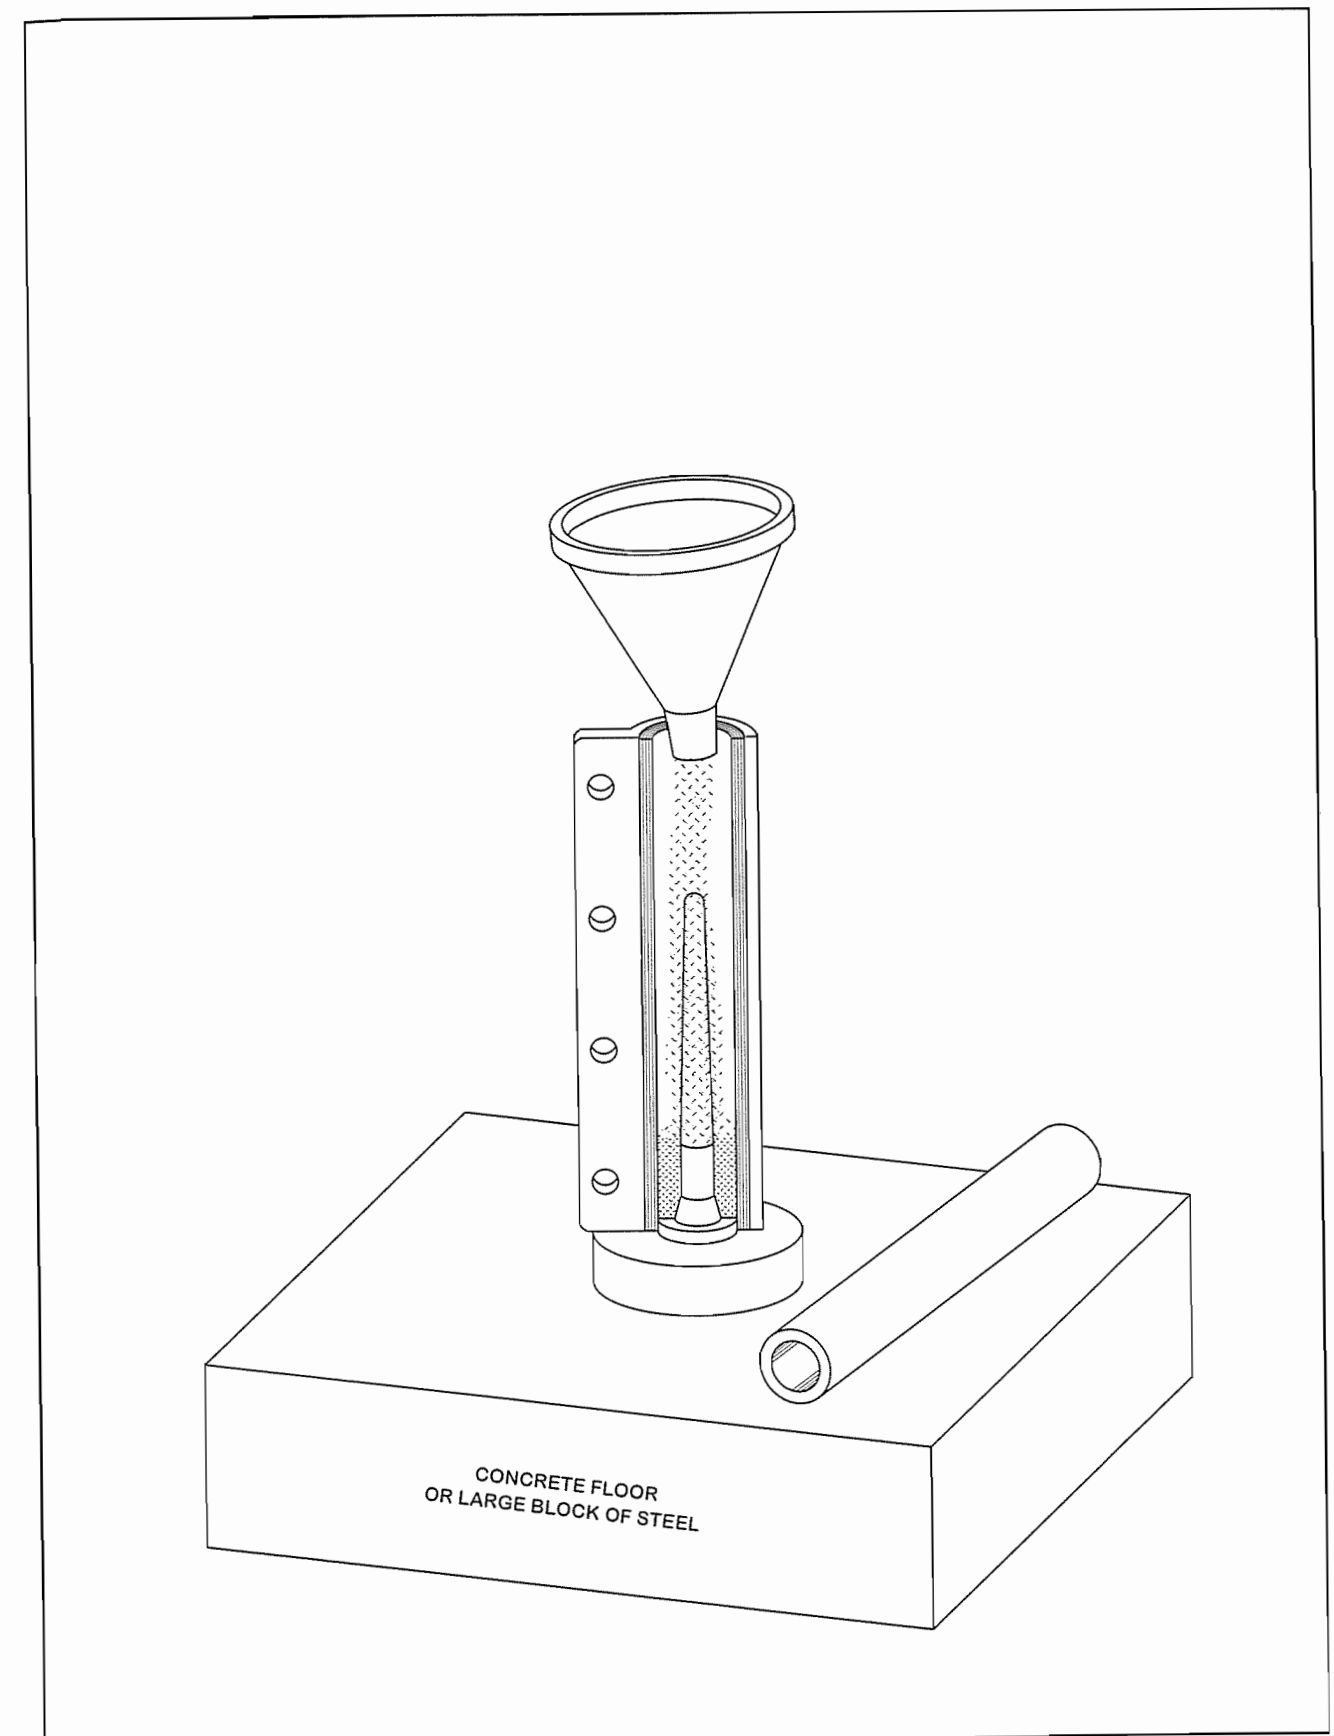
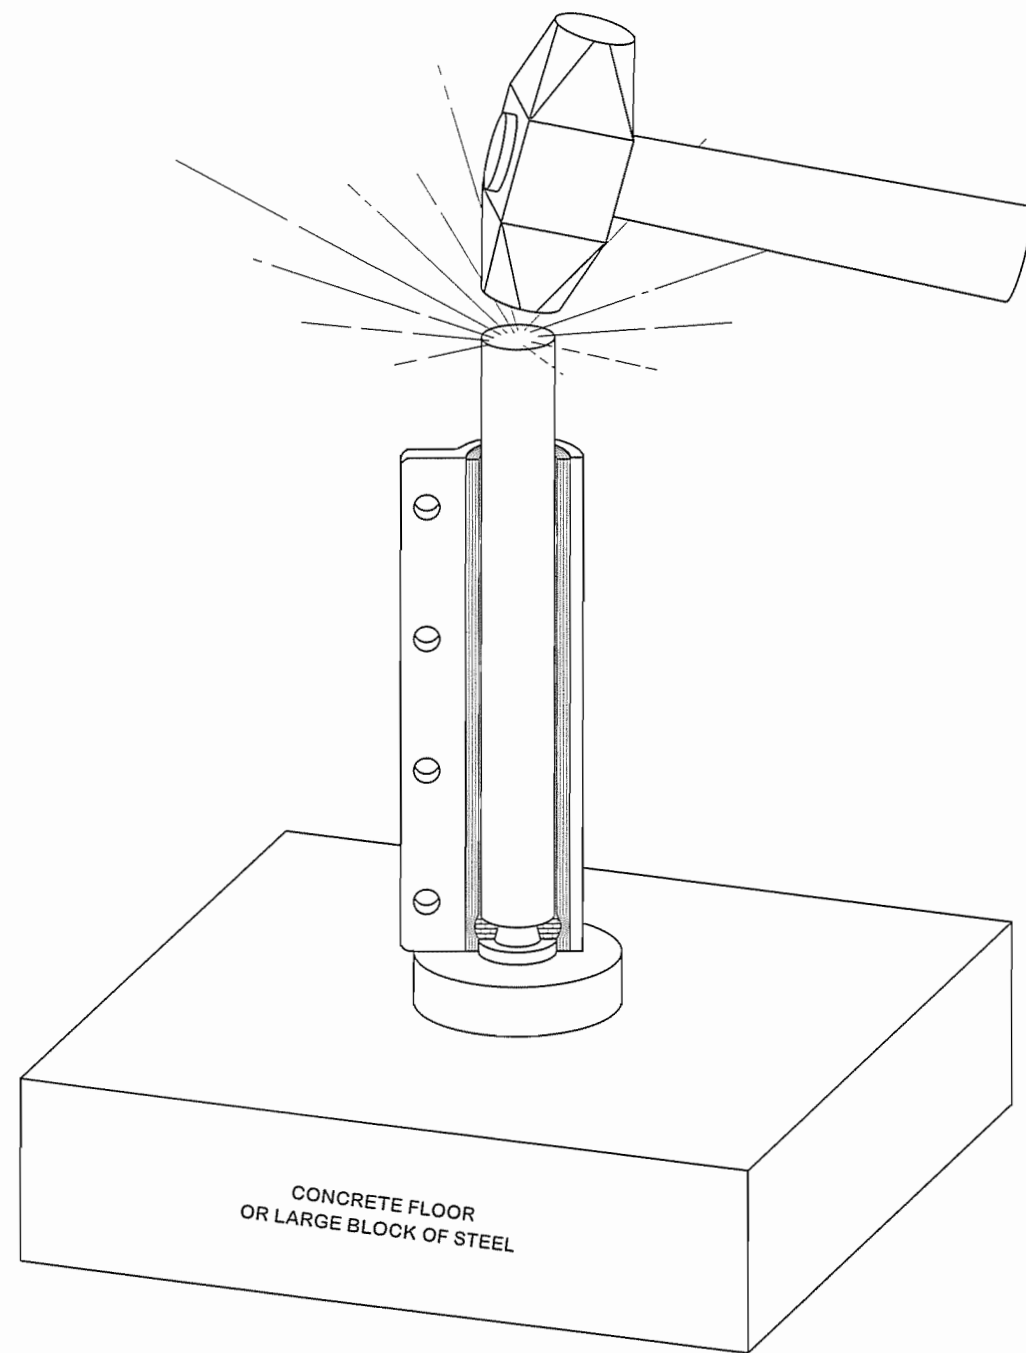

Figure 10-2. The first dose of clay is poured into the casing.
Figure 10-3. The first dose of clay is rammed into place with a ring-shaped starting tamp.
3. Pour half of the nozzle clay into the casing (**Figure 10-2**). Insert the starting tamp, and ram the clay into place (**Figure 10-3**). Pour in the rest of the clay (**Figure 10-4**). Insert the propellant tamp, and ram the remainder of the clay into place (**Figure 10-5**).